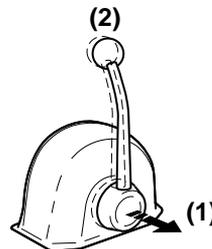

Figure 18
When the lever is pulled out (**Figure 18, (1)**), the engine speed can be controlled without engaging the clutch. The clutch remains in the NEUTRAL, no load position. Turn the knob (**Figure 18, (2)**) counterclockwise to move the lever or clockwise to lock the lever.